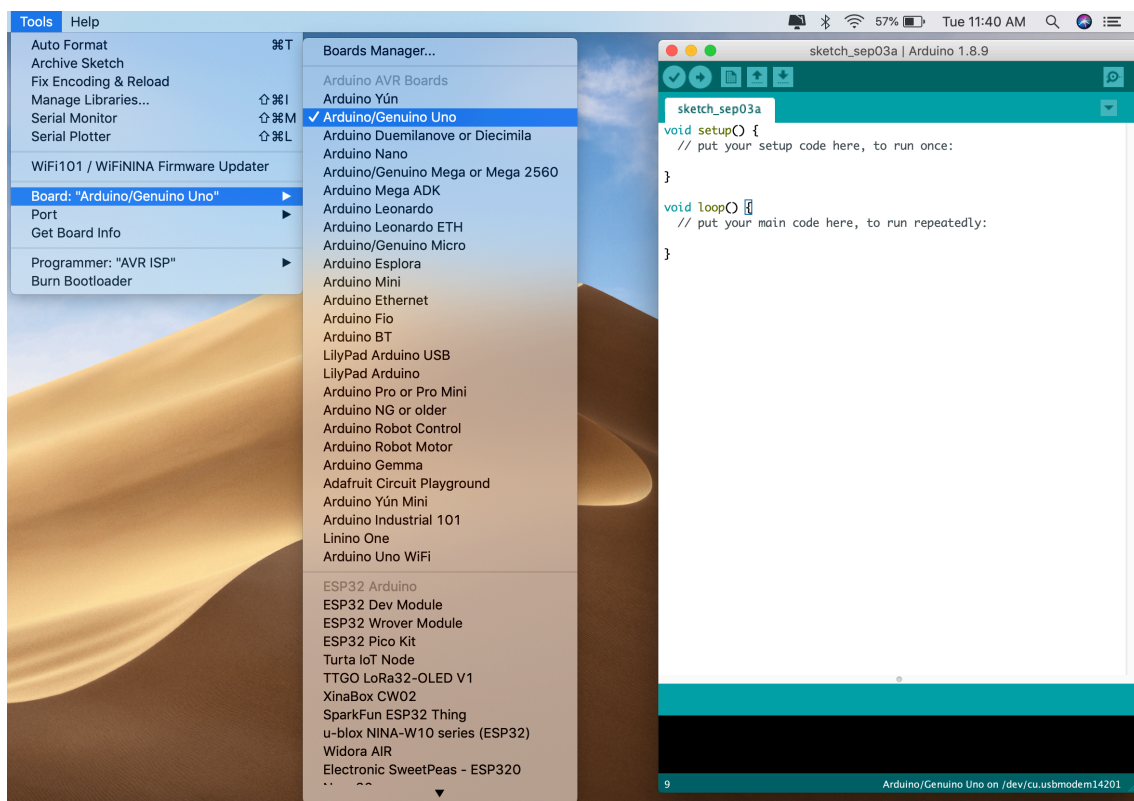

Figure 7: Selecting the **Arduino™** Uno Board
4. In the Arduino IDE, go to "Tools » Board", a list of boards should appear. Select the "Arduino/Genuino Uno" board, as in Figure 7